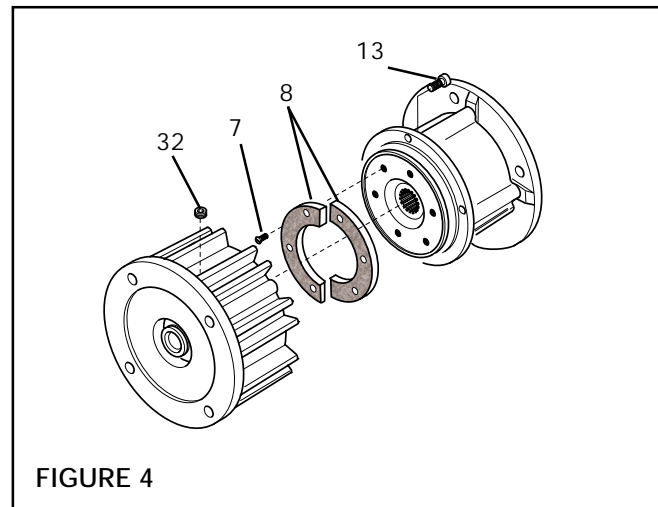

FIGURE 4
NOTE: If an Input Unit is installed on the FMCE, it must be removed before servicing the FMCE. Remove the Plug (Item 32) and loosen the Set Screw (Item 31) to release the FMCE from the Input Unit shaft (See Figure 4).
1. Remove the four Socket Head Cap Screws (Item 13) and separate the two halves of the FMCE (See Figure 4).
2. Remove the six old Flat Head Screws (Item 7) and the old split Friction Facings (Item 8) (See Figure 4).
3. Install the new split Friction Facings (Item 8) and new Flat Head Screws (Item 7) (See Figure 4).
5. Apply a drop of Loctite® 242 to the threads of the Socket Head Cap Screws (Item 13) (See Figure 4).